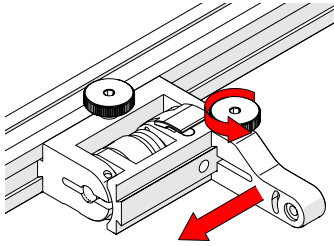

Fig. 64 - Position swing arm
5. Loosen the swing arm knob and slide the swing arm to the opposite end of the probe holder bracket (*Fig. 64*) or the preferred position. Tighten the swing arm knob.